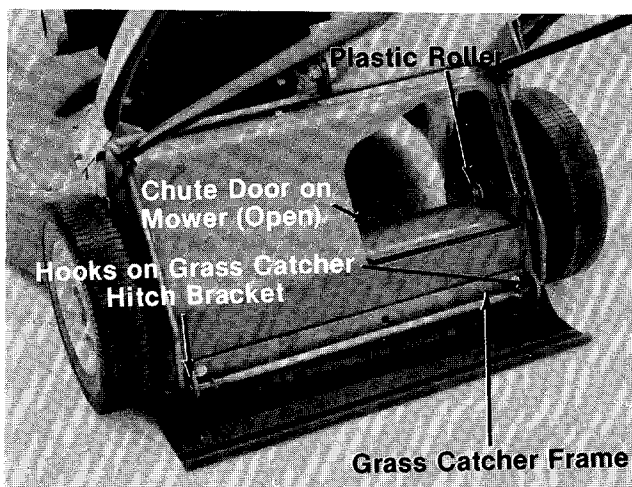

FIGURE 12.
1. Attach the grass catcher frame to grass catcher hitch bracket on rear of the mower by hooking grass catcher into hooks on grass catcher hitch bracket. See figure 12.
2. Lift the rear of grass catcher up. The roller on the grass catcher will push the chute door on the mower open. See figure 12.
Figure 12 is shown with the chute door open for photo clarity only.